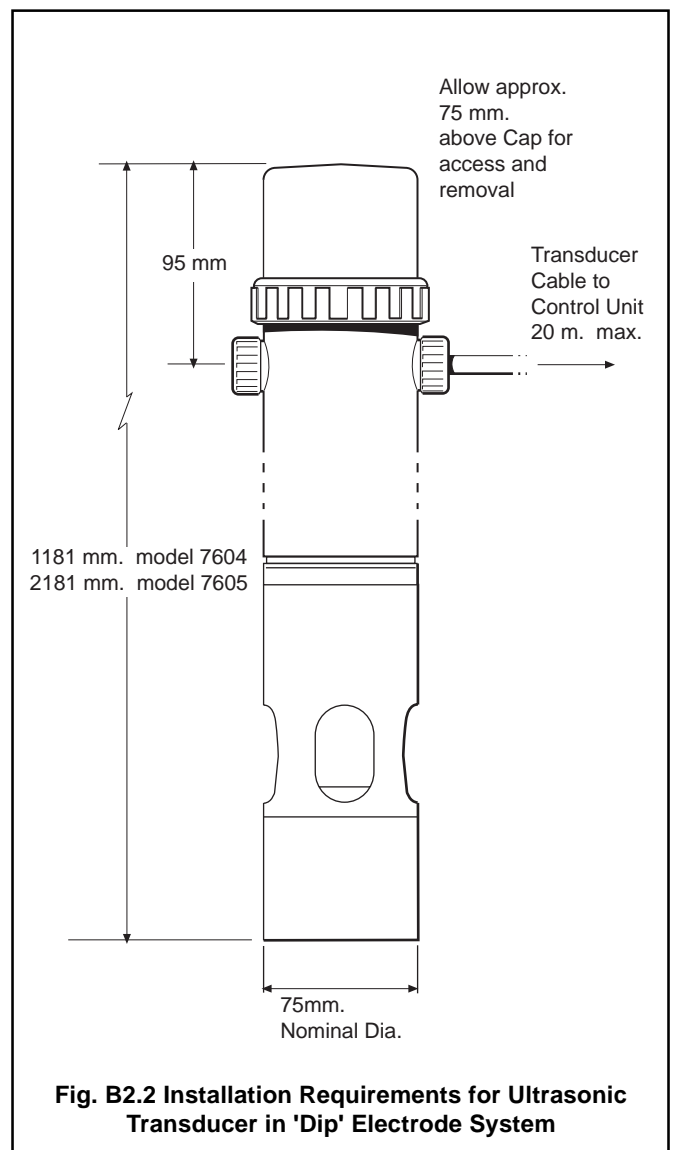

Fig. B2.2 Installation Requirements for Ultrasonic Transducer in 'Dip' Electrode System
- In the version on the Models 7654 and 7655 Dip Systems the element is fitted to the sensor holder block using a spare fixing position on the holder block. The transducer cable in this case is contained within the electrode system and leaves it via a gland fitting at the top of the dip tube – see Fig. B2.2